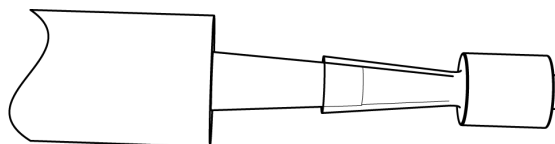

Figure 2: Mounting the Sep Pak on a syringe
- Use a 10-mL syringe (see Figure 2), a dropper bottle, or a wash bottle as a solvent pump to flush the C18 Sep-Pack cartridge with 10 mL of undiluted 18% isopropanol at a rate of 5 to 10 mL per minute.